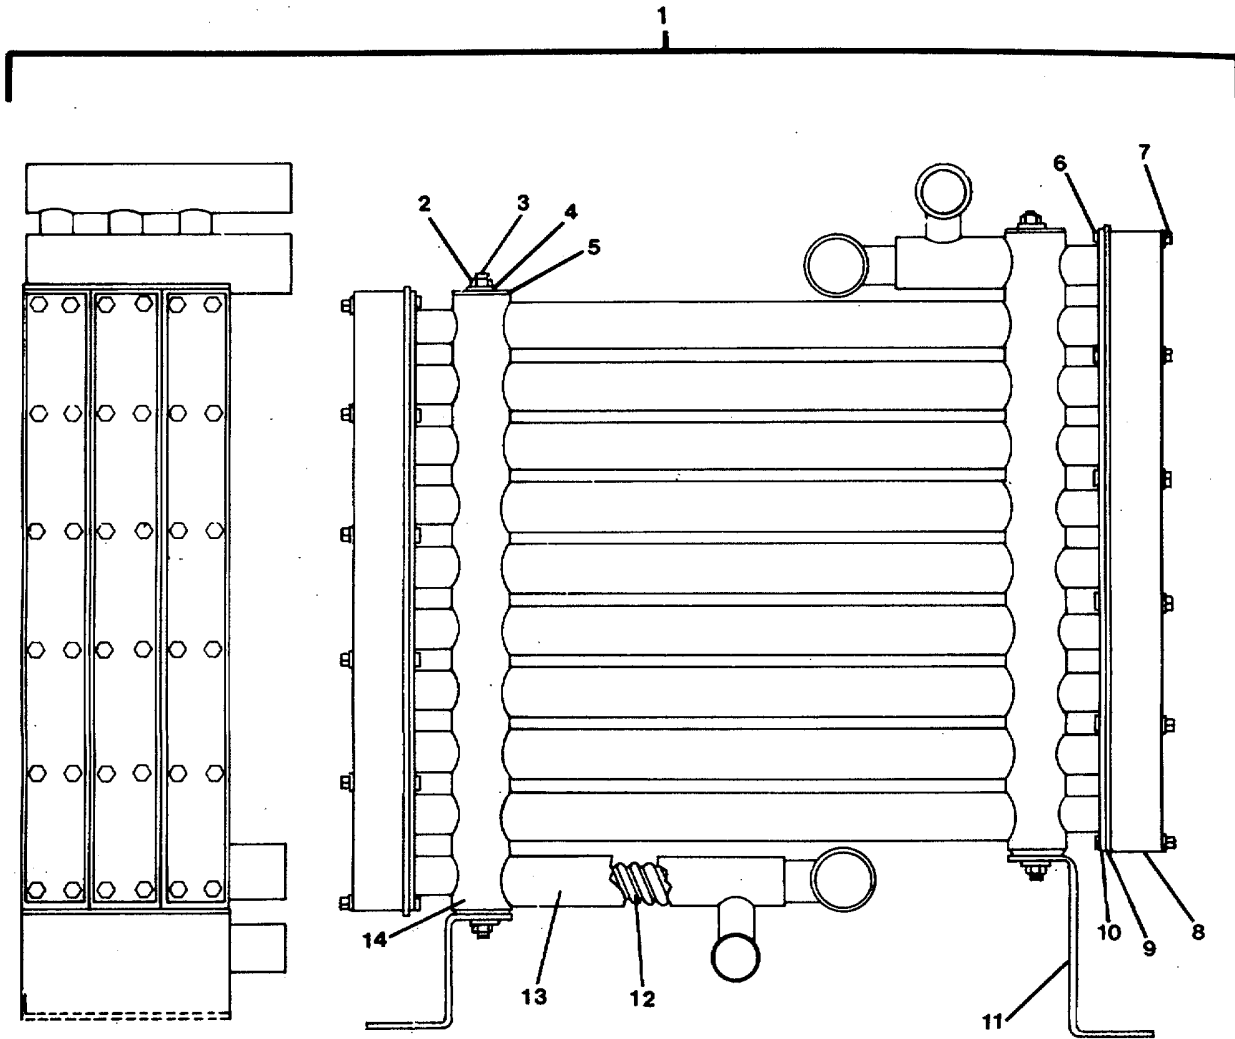

Figure 4-15. Water Cooled Refrigerating Condenser .
- d. Braze inlet piping to connection (4).
- e. Braze outlet piping to connections (2) and (5).
**4-18. Repair Water Cooled Refrigerating Condenser. (FIGURE 4-15)**